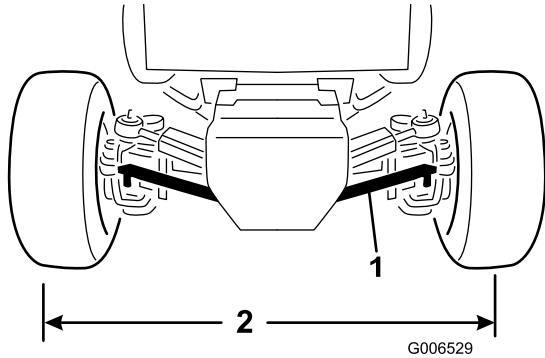

Figure 59
2. Remove nuts securing 1 tie-rod ball joint to the mounting bracket on the axle and disconnect the ball joint from the axle (Figure 59).
4. Rotate the tie-rod ball joint in or out until the center-to-center distance at front and back of the rear wheels is the same (Figure 59).